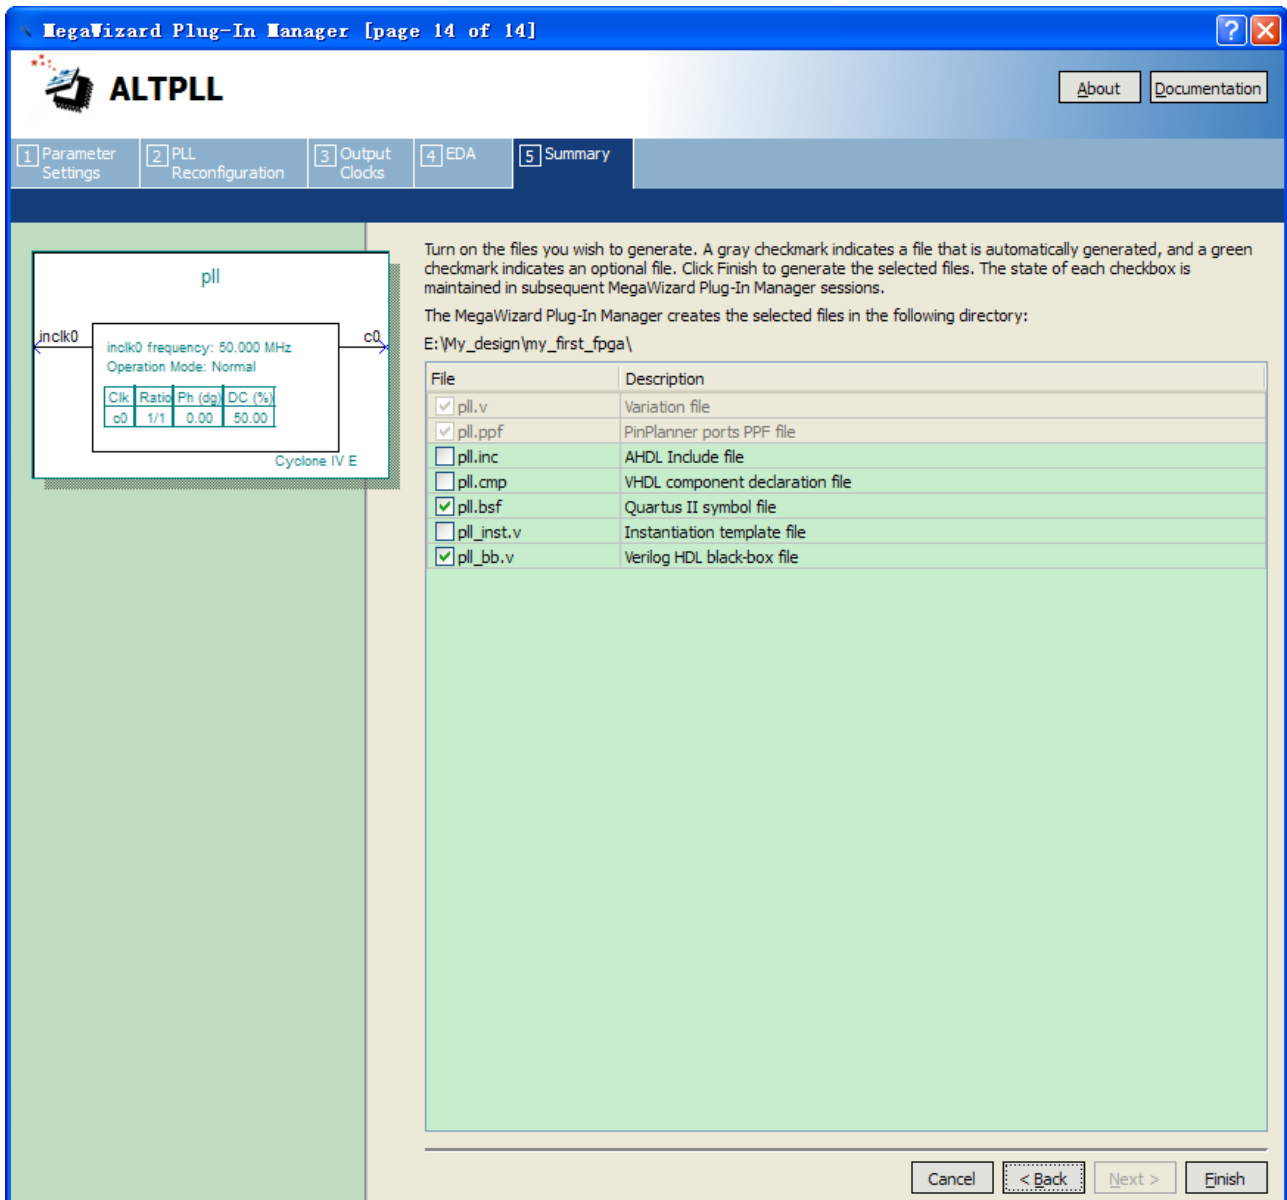

Figure 3-13 Wizard-Created Files
10. The wizard displays a summary of the files it creates (see **Figure 3-13**). Select the pll.bsf option and click Finish again.